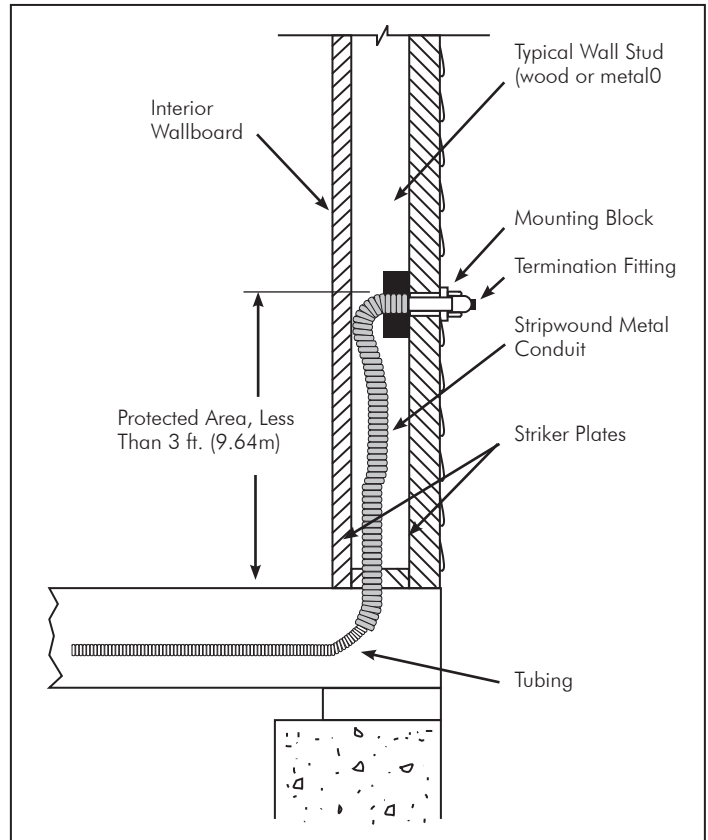

FIG. 4-14 Short Unsupported Tubing Run, under 3 ft. (9.84m), from an Outlet Device within a Wall Partition or Horizontal run between Studs
- c. Install floppy steel conduit in locations where striker plates are impractical such as termination outlets and stub outs, short tubing runs and where tubing is routed horizontally between studs (see **FIG 4-14**).